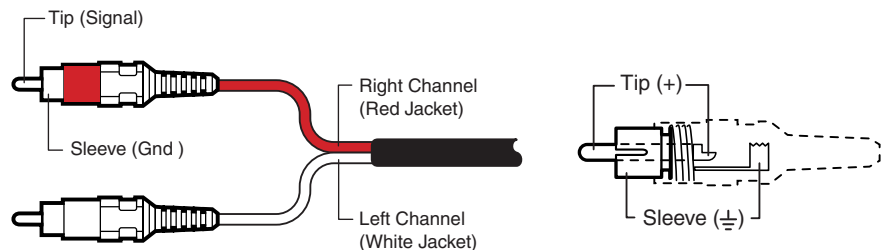

Figure 2-5 — RCA connector wiring
- ⑥ **RCA connector audio inputs (RCA audio connector [A RCA] models only)** — Each input has a pair (left and right) of RCA connectors for unbalanced stereo audio input (figure 2-5).
- ⑧ **RCA connector audio output (RCA connector audio [A RCA] models only)** — The switcher has a pair (left and right) of RCA connectors for each unbalanced stereo audio output (figure 2-5).